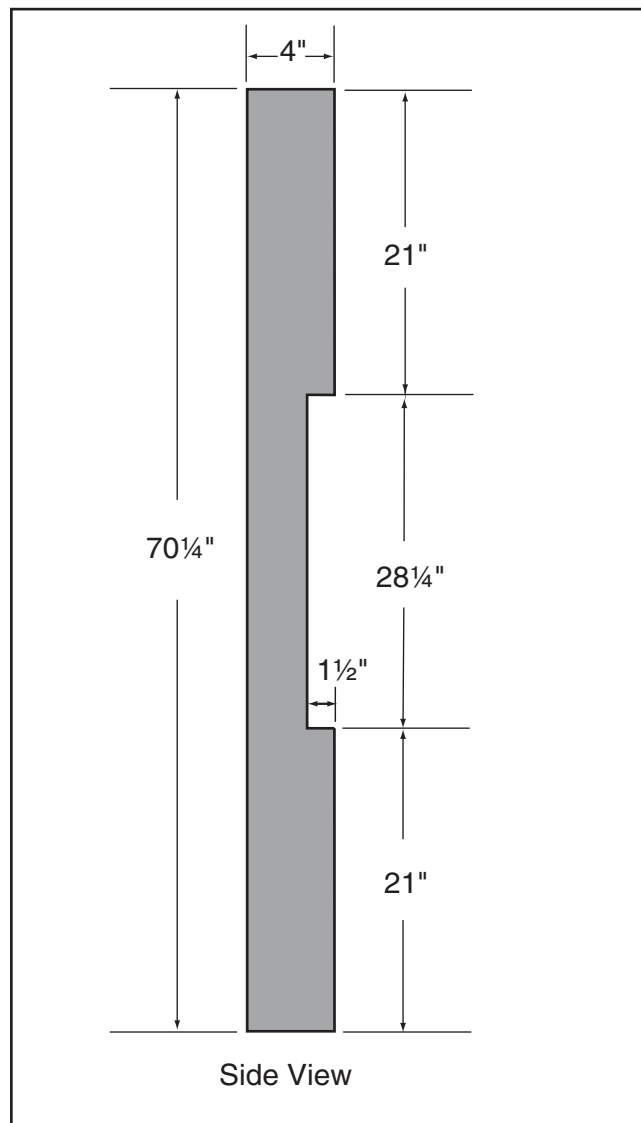

Figure 52. Dimensions of coplanarity gauge.
1. The body of the bandsaw does not allow you to place a regular straightedge across both wheels at the same time. We’ve found a simple way to overcome this situation. All you need is a 70¹/₄ x 2" x 4" board, a jointer and a circular saw. Run the 2" x 4" across a jointer on the side to be placed against the wheels, then cut a 1¹/₂ x 28¹/₄" notch out of the center. Refer to **Figure 52** for more details on how to make this gauge.